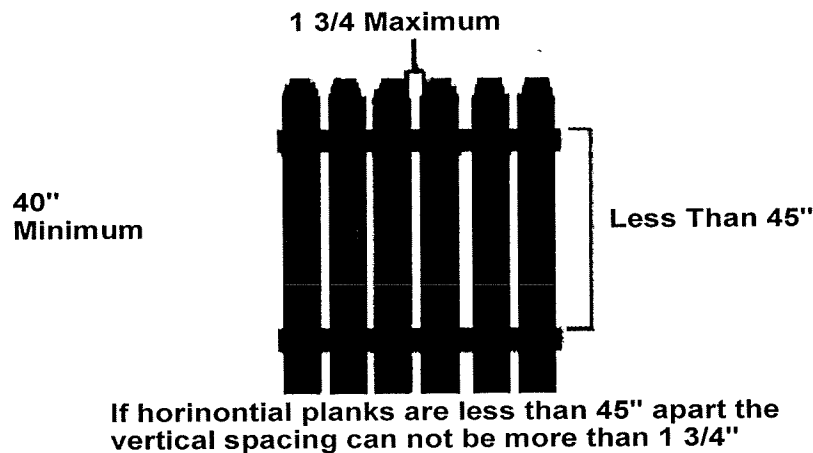

Figure 1
4. Where the barrier is composed of horizontal and vertical members and the distance between the tops of the horizontal members is less than 45 inches, the horizontal members shall be located on the swimming pool side of the fence. Spacing between vertical members shall not exceed 1 3/4 inches in width. Decorative cutouts shall not exceed 1 3/4 inches in width. (figure 1)